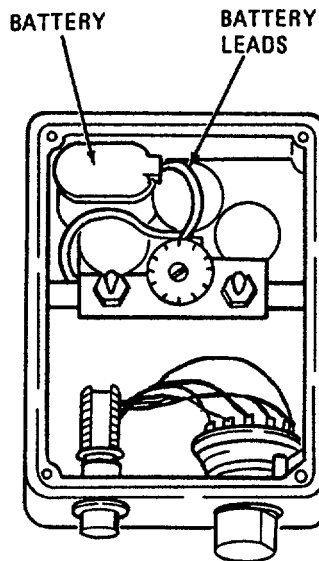

FIGURE 3-14. TOTAL DISSOLVED SOLIDS (TDS) METER BATTERY REPLACEMENT
**a. Calibration.** Each time before using TDS meter, perform a calibration check in accordance with paragraph 2-15c(4). Whenever switching to or from seawater sources, meter must be recalibrated in accordance with paragraph 2-15c(2) or paragraph 2-15c(3).
**b. Battery Replacement (figure 3-14):**
- (1) Remove bottom plate.
- (2) Disconnect leads from battery.
- (3) Install new battery and connect leads.
- (4) Install bottom plate.
- (5) Depress indicator button and adjust wheel until the dial reading is equal to the value stamped on the bottom plate. If using a seawater source, refer to paragraph 2-15c.
- (6) If reading cannot be adjusted after replacing battery, replace the TDS meter.